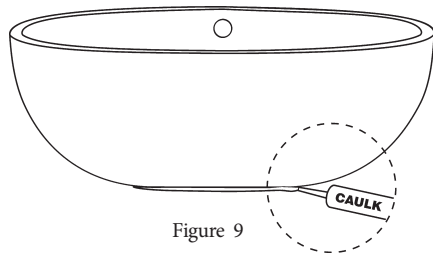

Figure 9
18. Run a bead of tub and tile caulk around the bottom edge of the bathtub where it meets the floor. Wipe off any excess caulk with a wet cloth (Figure 9).